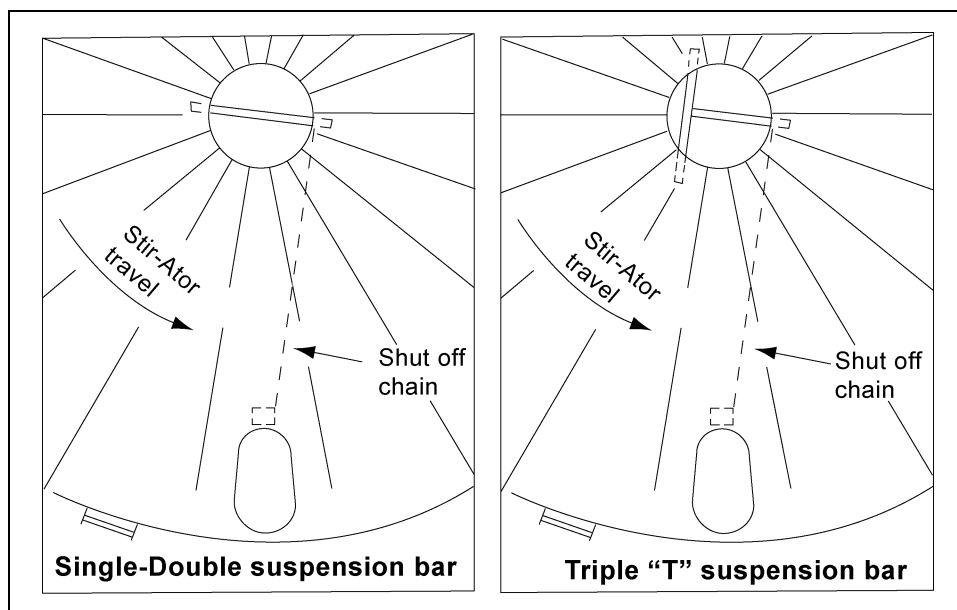
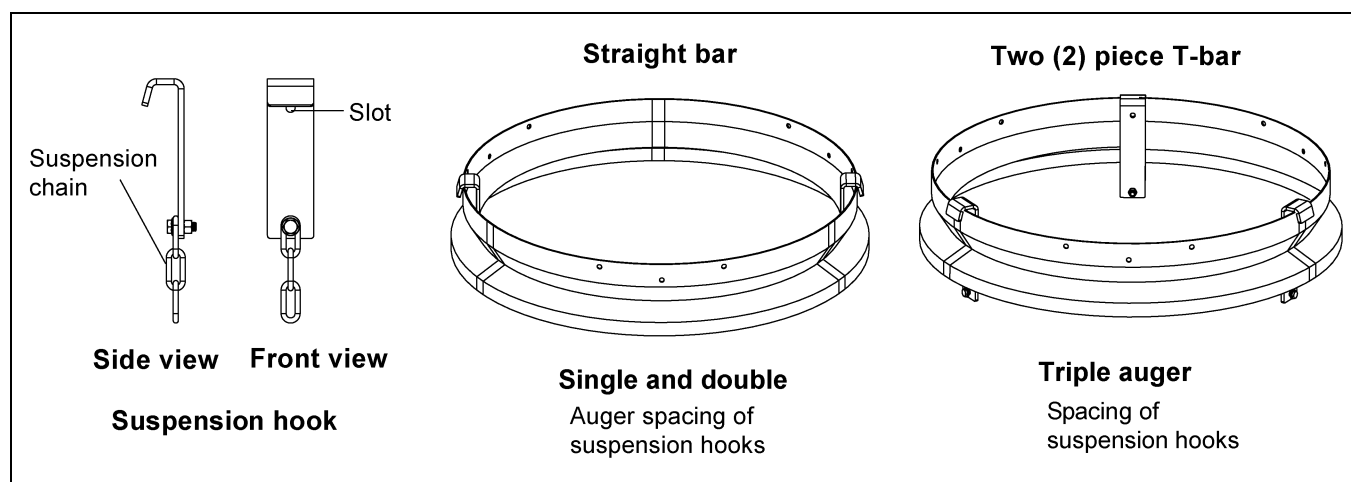
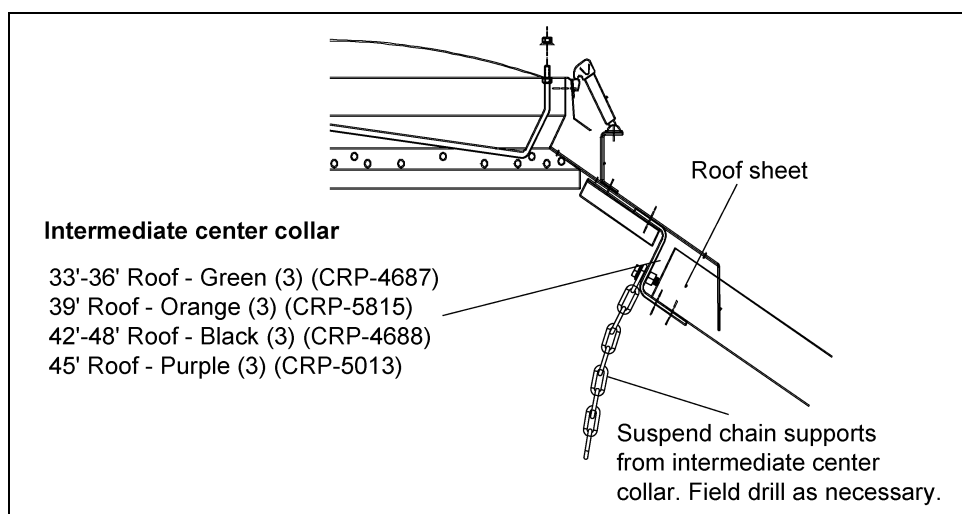

Figure 4F Viewed from top of bin
Figure 4G
Figure 4H
7. Is the suspension bar positioned so that the bin "S" hook, to which the shut off chain is attached, is at a right angle to the switch box chain, as shown in Figure 4F on Page 23. THE POWER CORD MUST HAVE MORE SLACK THAN THE SHUT OFF CHAIN or the power cord could be torn out of the switch box if the Design III should malfunction and engage the shut off.
1. The bin roof is then assembled and the suspension chains are dropped through the fill-hole. **Two (2) chains are used on the single and double auger units and three (3) chains are used on the triple auger units.** Space the suspension hooks equally apart around the center fill-hole collar, placing them in reference to the manhole where the shut off switch box is to be located. Place chains through the hole and then slide the chain down into the slot. (See Figure 4F and Figure 4G.) A hole in the suspension hooks is provided if bolting the hooks in position is desired. **NOTE: For GSI bins larger than 33' diameter an alternate method of mounting is to attach suspension chain to intermediate center collar.** (See Figure 4H on Page 24.)